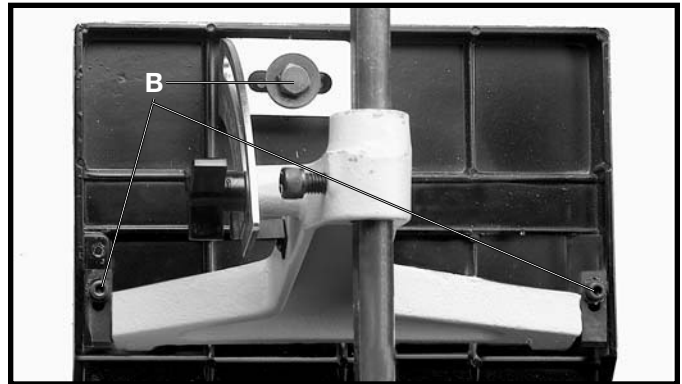

Fig. 34
3. If an adjustment to the table is necessary, loosen the three screws (B) Fig. 34, that fasten the table to the table mounting bracket and trunnion and adjust the table accordingly - then tighten the three screws (B).